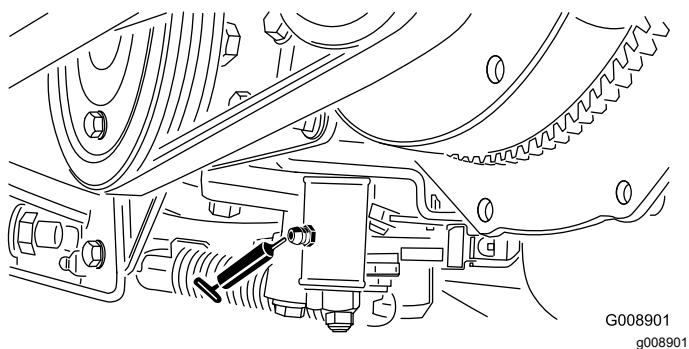

Figure 38
- Neutral adjust mechanism (Figure 38)